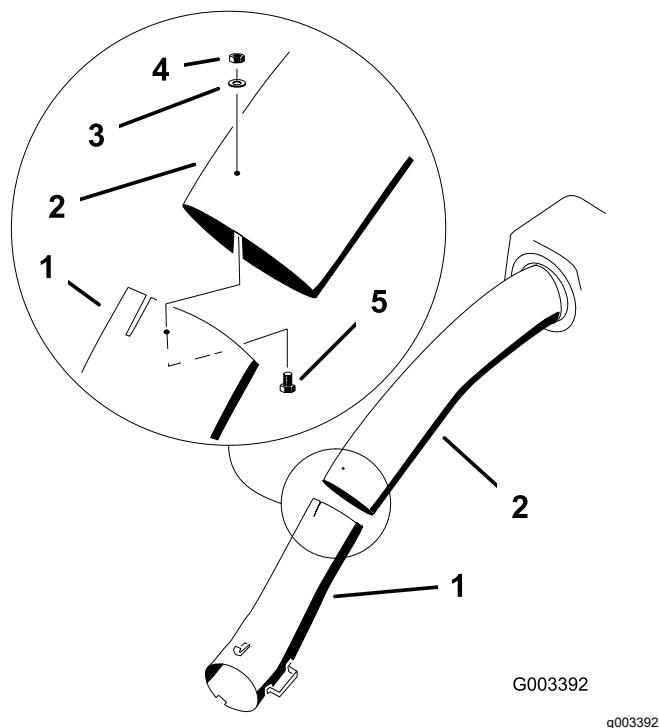

Figure 25
12. Join the upper and lower tubes with 3 bolts (#10 x 3/4 inches), 3 flat washers (7/32 inch), and 3 locknuts (#10) as shown in Figure 25.